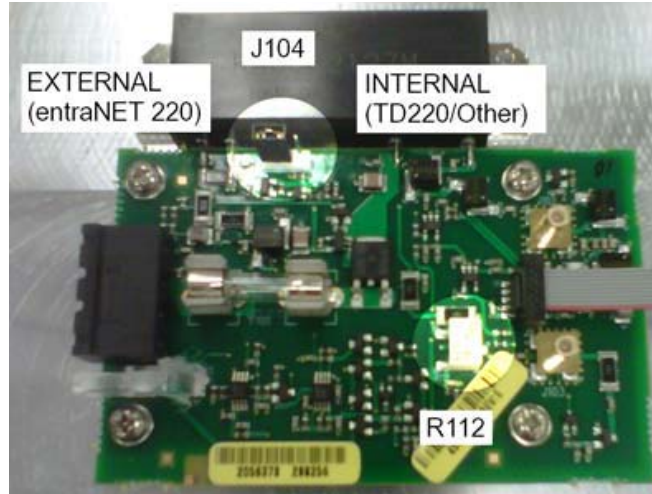

Figure 1 – J104 and R112 Locations
3. For use with SD1 transceiver follow these sub-steps, PWR set between 23-27 dBm (input power). Do not use above 27dBm for GPA-1 input. Move Jumper J104 to the Internal Keying position as shown in Figure 1. Access to J104 is available through a top cover vent slot.